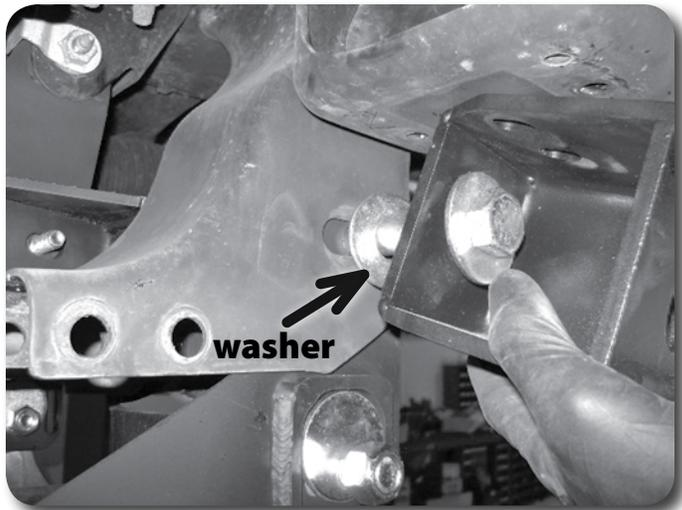

Figure 21
37. Install the provided sway bar drop brackets to the original sway bar mounting positions with the OE bolt tab from the top-down. Attach to the rear crossmember bolts with a 3/4" USS washer as a spacer between the bracket and frame pocket. The open side of the bracket will go to the inside of the vehicle. Place another 3/4" USS washer and 18mm nut on the new rear bolt. (Figure 21, 22)